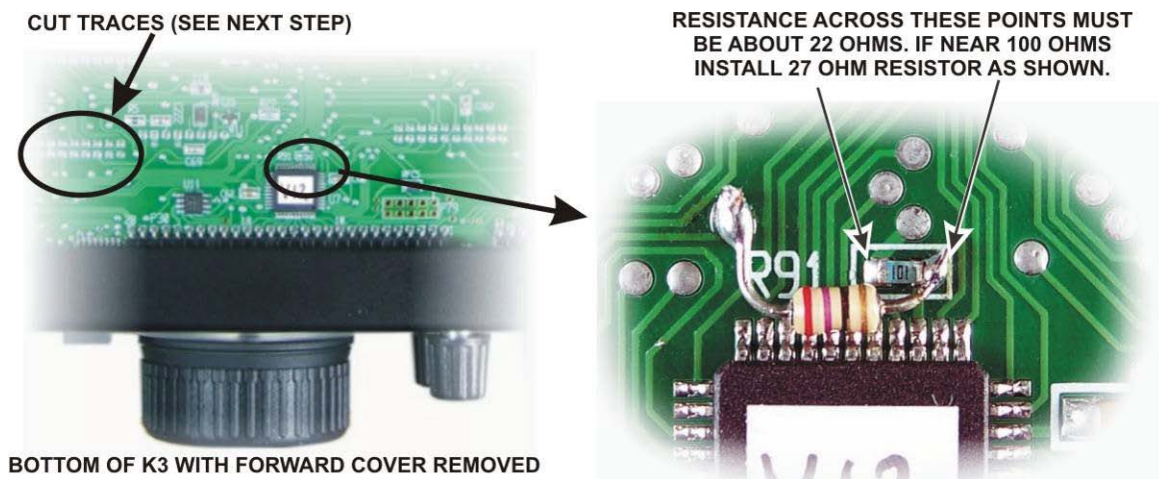

Figure 22. R91 Modification.
- Locate R91. It is a small surface-mount resistor near the front center of the RF board (see Figure 22).
- Use your DMM to measure the resistance across R91 in the circuit. If the resistance is about 22 ohms, you do not need to add the leaded resistor. Go directly to the next step below. If the resistance is near 100 ohms, install the 27 ohm (red-violet-black) 1/8-watt resistor as shown in Figure 22. The pads shown were chosen to make installation easier than trying to solder directly to both ends of R91. Take care not to use more heat or solder than necessary to avoid damaging the board or forming solder bridges across R91 or to other pads.
Check to see if the traces shown below have been cut. They are on the bottom of the RF board in the area to the left of R91 with the front panel facing toward you (see Figure 22). If not, cut them as shown. This modification ensures the digital-to-analog converters (DACs) always receive the proper signal levels. It has been incorporated into all later K3s. Confirm the traces are cut using your DMM. It should indicate an open circuit, just as if your meter leads were not connected to anything.